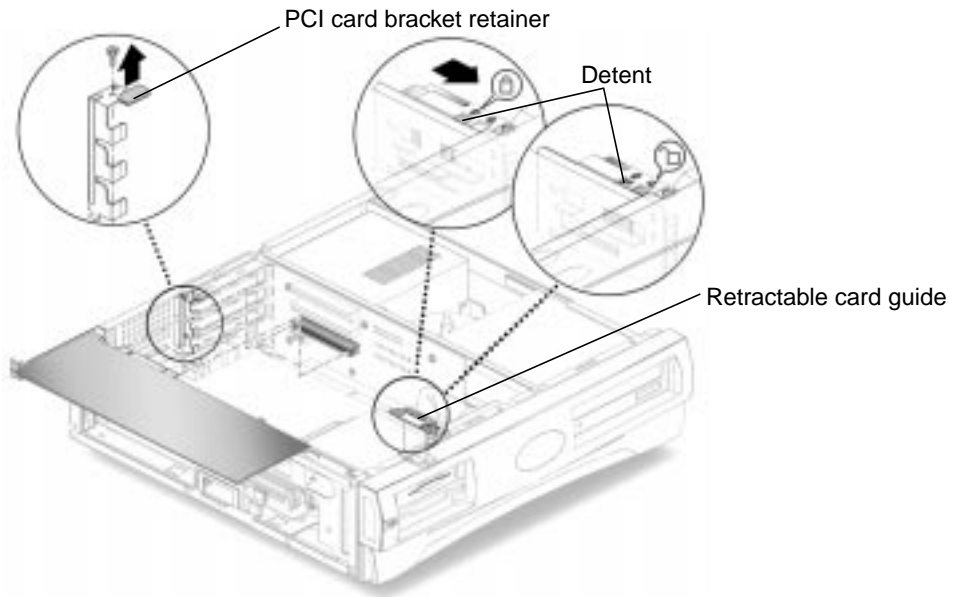

FIGURE 8-6 Removing and Replacing a PCI Card
2. **Disconnect all external cables from the PCI card (FIGURE 8-6).**
2. Position the PCI card into the chassis (FIGURE 8-6).